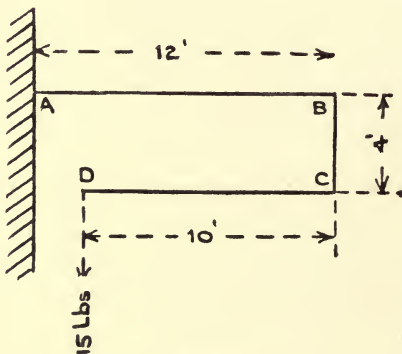

Fig. 3.
5. A bent rod  $ABCD$  is fixed horizontally at  $A$  in a vertical wall and loaded in the manner shewn in Fig. 3.